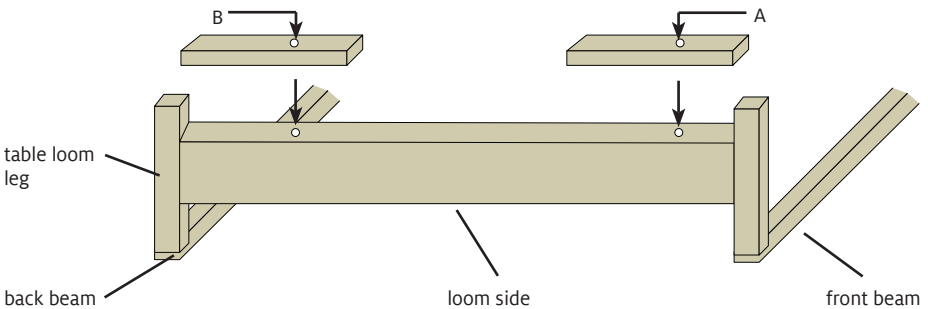

FIGURE 5: 8-SHAFT TABLE LOOM BASE, UPSIDE DOWN WITH CASTLE REMOVED
4. The 8-shaft loom has a larger frame, so the holes at the rear of the loom are farther from the back legs. Use end A for the holes at the front of the 8-shaft loom and B for the holes at the rear of the 8-shaft loom (Figure 5). ■